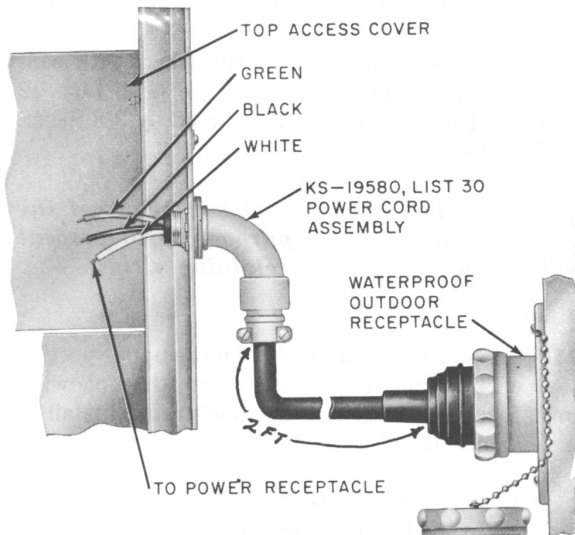

Fig. 19—KS-19580, List 30 Power Cord Assembly Overhead Entrance
2.25 KS-19580, List 30 power cord assembly (Fig. 19) is available for overhead power.
- 3.12 For overhead entrance with plug-in features, use KS-19580, List 30 power cord assembly and install per Fig. 19.